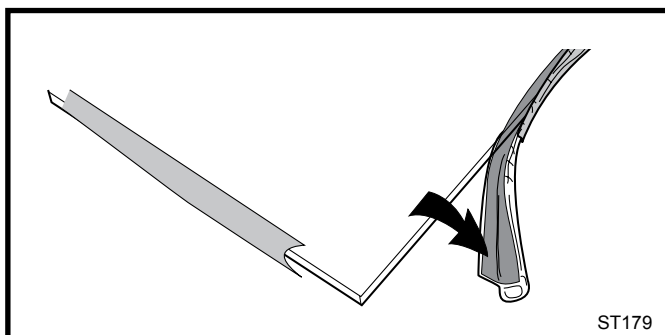

Figure 85 Wrap the gasket material around the outside ledge of the glass.
3. Starting on a long edge, remove about 6" of the protective paper strip and apply the flat adhesive face of the gasket around the outside-facing edge of the panel. Continue around the panel, applying a bout 6" at a time and being careful to not stretch the material. Do not overlap the gasket ends. (Figure 85)